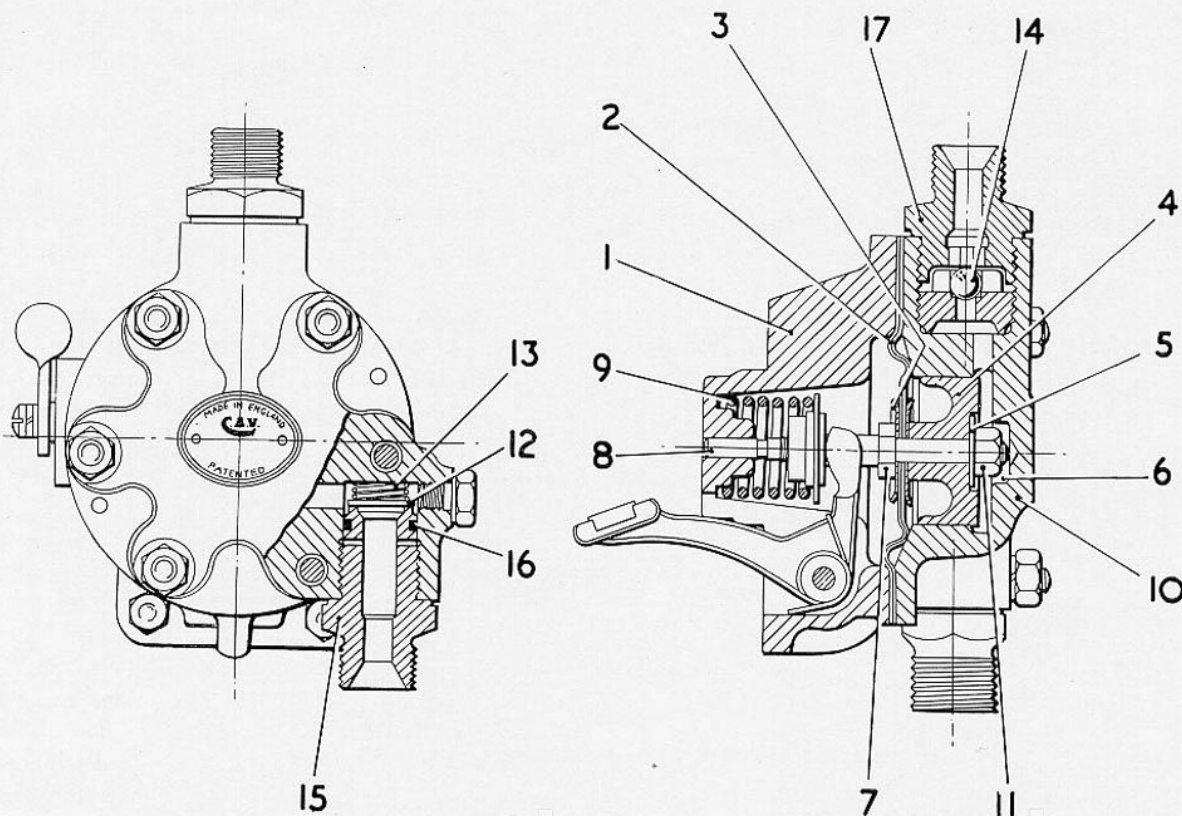

FIG. 4. TYPE DFP3/7 DIAPHRAGM PLUNGER FEED PUMP
Fig. 4 clearly illustrates this type of pump.
## Removing and Replacing Valves (See Fig. 4)
Then unscrew six cover retaining nuts and lift cover (10) (Fig. 4) clear of studs. Ease edges of diaphragm leaves from housing (1) to allow insertion of a thin spanner to engage flats (7).
(a) DFP3/7 (See Fig. 4)